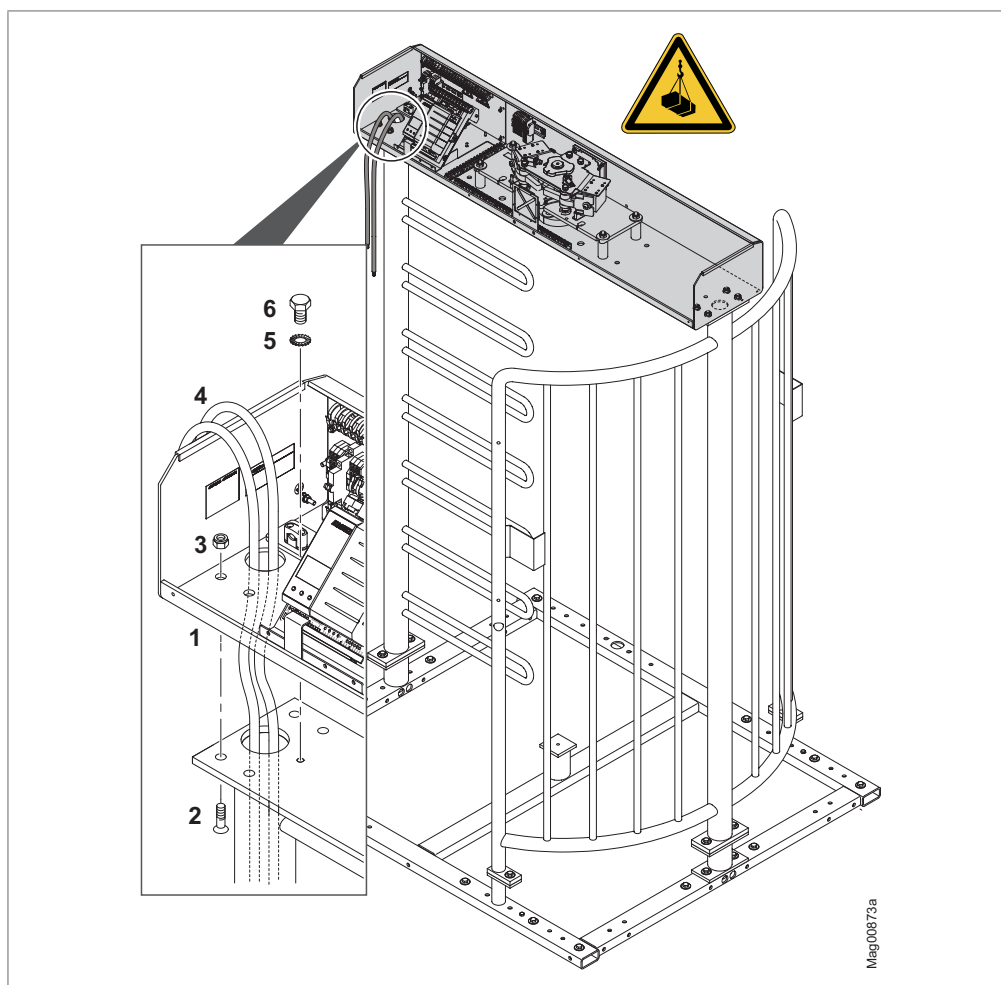

Fig. 24: Putting on the support beam and installing it
- › Is the support beam earthed? ↗ Page 52, Fig. 24.